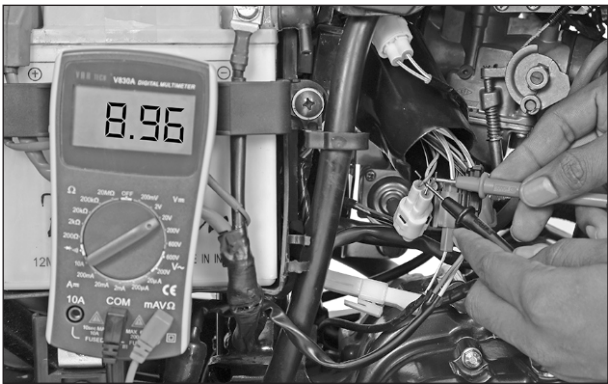

Fig. 5.37
- Connect the pocket tester's '+ve' lead to the orange grey wire (OrGr) and '-ve' lead to the black yellow wire (BY) of speed sensor coupler and measure the voltage. (Fig. 5.37)